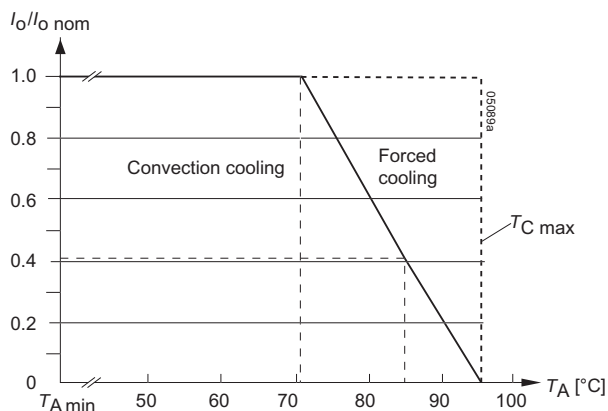

**Fig. 8**
**Notes:** Sufficient forced cooling or an additional heat sink allows  $T_A$  to be higher than 71 °C (e.g., 85 °C), as long as  $T_{C \max}$  is not exceeded. Details are specified in fig. 8.